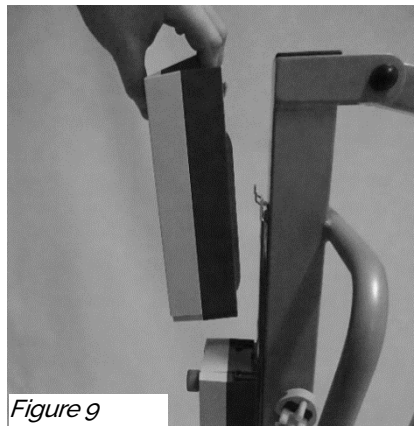

Figure 9
2. Press the latch to release the Battery and lift the Battery from its fixing. (Figure 9)